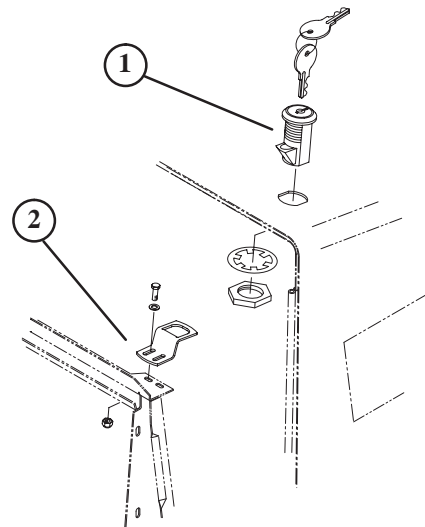

Figure 3
3. Mount locking switch to hood with lock washer and nut. Position switch with latch toward front of machine (Fig. 3).
4. Loosely mount latch bracket to radiator support with 2 cap screws (1/4 x 3/4 in.), flat washers, and locknuts (Fig. 3).